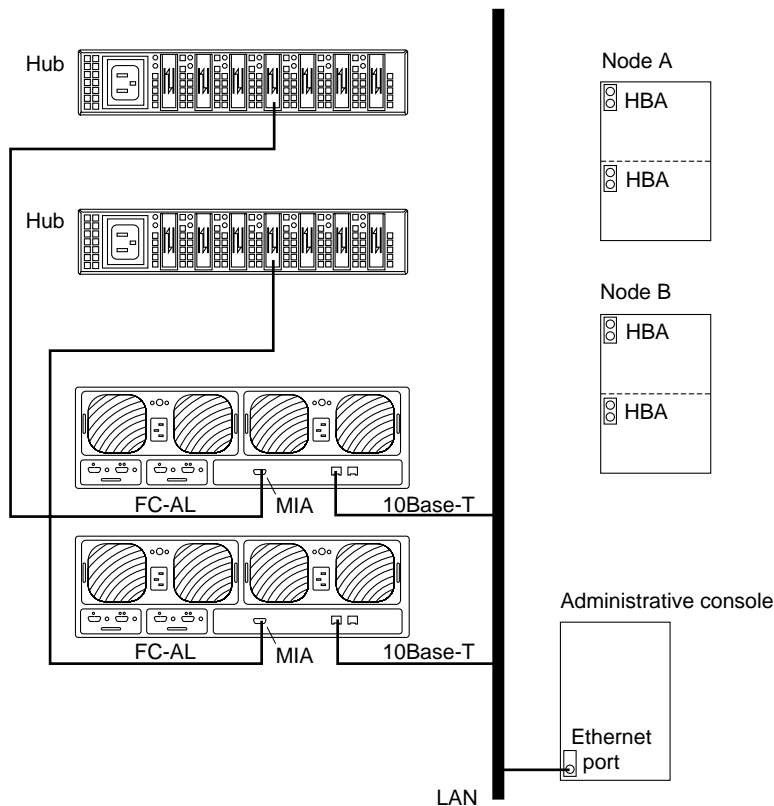

FIGURE B-2 Adding a Sun StorEdge T3 disk tray in a single-tray configuration
2. **Install the media interface adapter (MIA) in the Sun StorEdge T3 disk tray you want to add as shown in FIGURE B-2.**
3. **If necessary, install a gigabit interface converter (GBIC) in the Sun StorEdge FC-100 hub as shown in FIGURE B-2.**
4. **Install the 10Base-T Ethernet cable between the Sun StorEdge T3 disk tray and the Local Area Network (LAN) as shown in FIGURE B-2.**
8. **Install a fiber optic cable between the Sun StorEdge FC-100 hub and the Sun StorEdge T3 disk tray as shown in FIGURE B-2.**